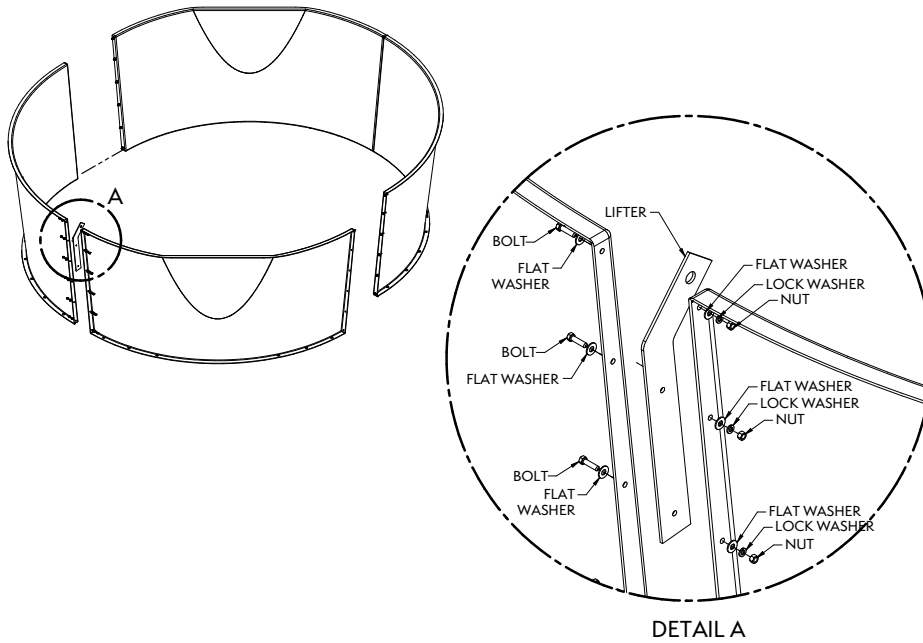

Figure 37 – Assembly of a VR Stack
Some AXS units are designed with Velocity Recovery (VR) stacks. These units are designated with a -VR suffix. The VR stack will ship disassembled in four pieces and packaged separately. Bolt all four sections together on the vertical seams as shown in **Figure 37** below. Ensure that the lifting ears are installed between each of the sections.